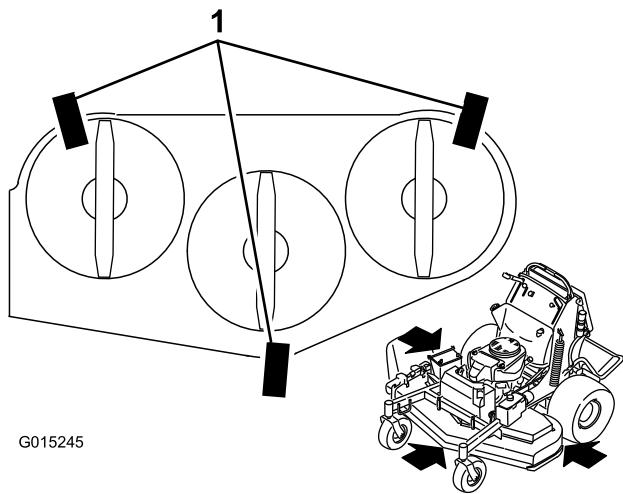

Figure 86
1. Place 3 pieces of 2x4 wood under the mower deck as shown in Figure 86.